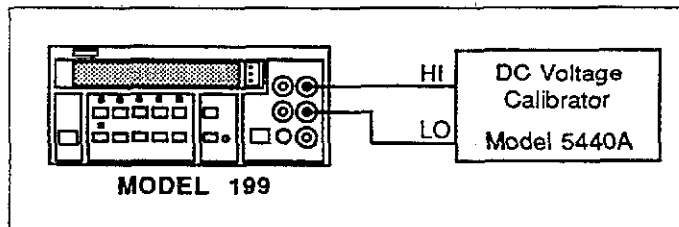

Figure 4-1. Connections for DC Volts Verification
2. Connect the DC voltage calibrator to the Model 199 as shown in Figure 4-1.